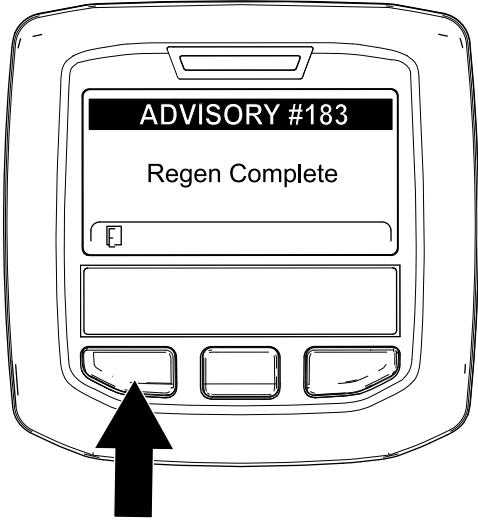

Figure 61
- When the engine computer completes a parked or recovery regeneration, the InfoCenter displays ADVISORY #183 (Figure 61). Press the left button to exit to the home screen.
Note: If the regeneration fails to complete, the InfoCenter displays Advisory #184 (Figure 61). Press the left button to exit to the home screen.